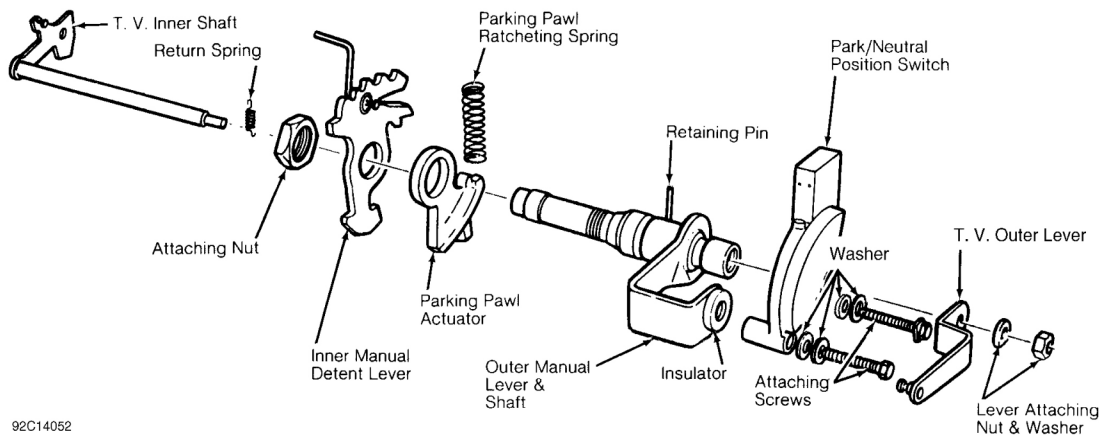

Fig. 12: Exploded View of Manual & Throttle Linkage Components
1. Hold outer throttle lever stationary to prevent damage to throttle shaft cam and remove throttle valve outer lever nut and washer. Remove neutral safety switch. See **Fig. 12**.